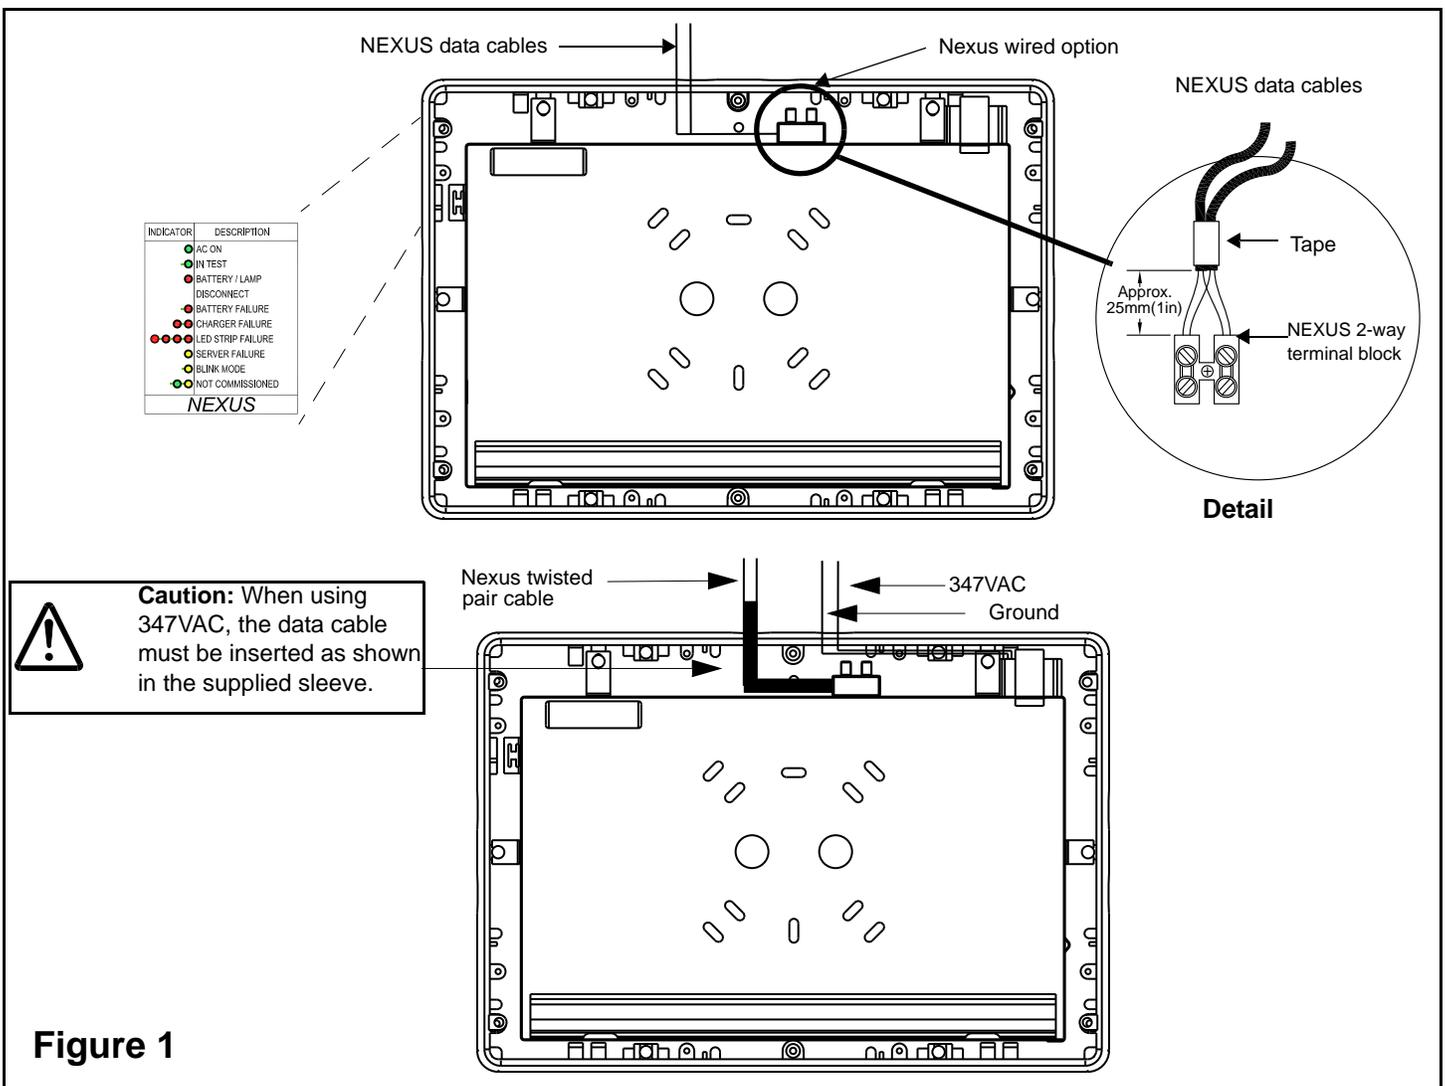

Figure 1
2. See caution for 347VAC. Route the Nexus data cables in the unit and strip 25mm(1in) of the double insulation (see detail in figure 1). The two cables are identical and both contain 2 wires of different colors: "color A" and "color B". Gather the "color A" wire from each cable, and connect them to the same pole on the terminal block. Gather the "color B" wire from each cable, and connect them to the other pole on the terminal block. The result must be 2 wires of the same color in each pole on the terminal block (see detail in figure 1).